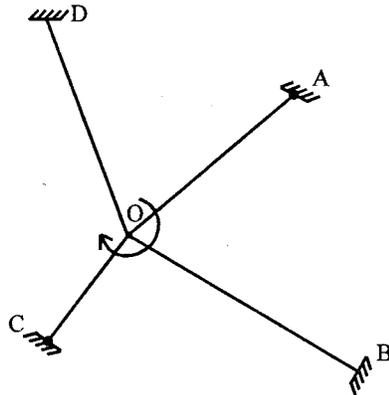

Fig. 3
- (c) Calculate the distributed moments for the members OA, OB, OC and OD as shown in Fig. 3. If their lengths are 150, 200, 100 and 200 cm and moment of inertia are 300, 400, 300 and 200 cm⁴ unit respectively. The applied moment at joint 'O' is 10800 N-cm.